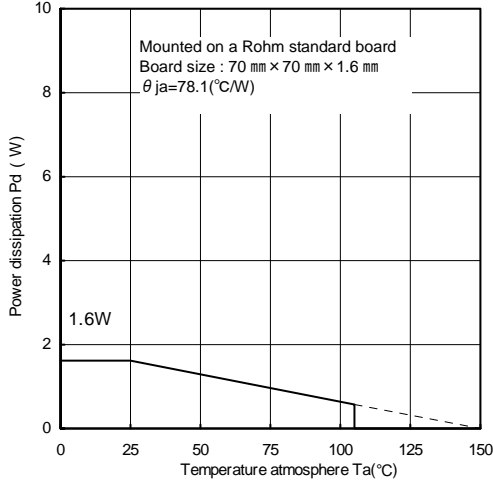
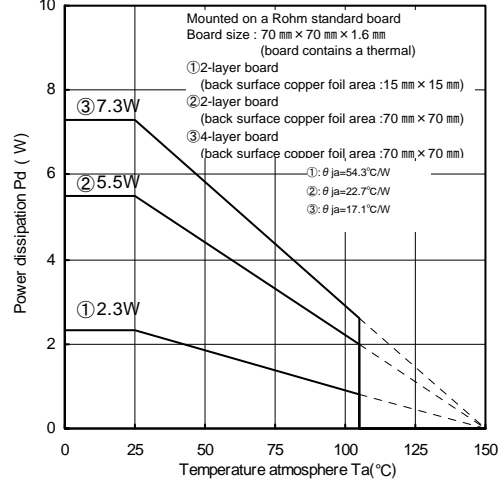

Fig.15
Fig.16 (Reference data)
When using at temperatures over $T_a=25^{\circ}\text{C}$, please refer to the heat reducing characteristics shown in Fig.15. and Fig.16. The IC characteristics are closely related to the temperature at which the IC is used, so it is necessary to operate the IC at temperatures less than the maximum junction temperature $T_{j\text{max}}$.
Fig.15 and Fig.16 shows the acceptable loss and heat reducing characteristics of the HRP5 package. Even when the ambient temperature T_a is a normal temperature (25°C), the chip (junction) temperature T_j may be quite high so please operate the IC at temperatures less than the acceptable loss P_d .
The calculation method for power consumption $P_c(\text{W})$ is as follows :(Fig.16③)
$\left[\begin{array}{l} \text{Fig.16③: } \theta_{ja}=17.1^{\circ}\text{C/W} \rightarrow -58.4\text{mW}/^{\circ}\text{C} \\ 25^{\circ}\text{C}=7.3\text{W} \rightarrow 85^{\circ}\text{C}=3.796\text{W} \end{array} \right]$